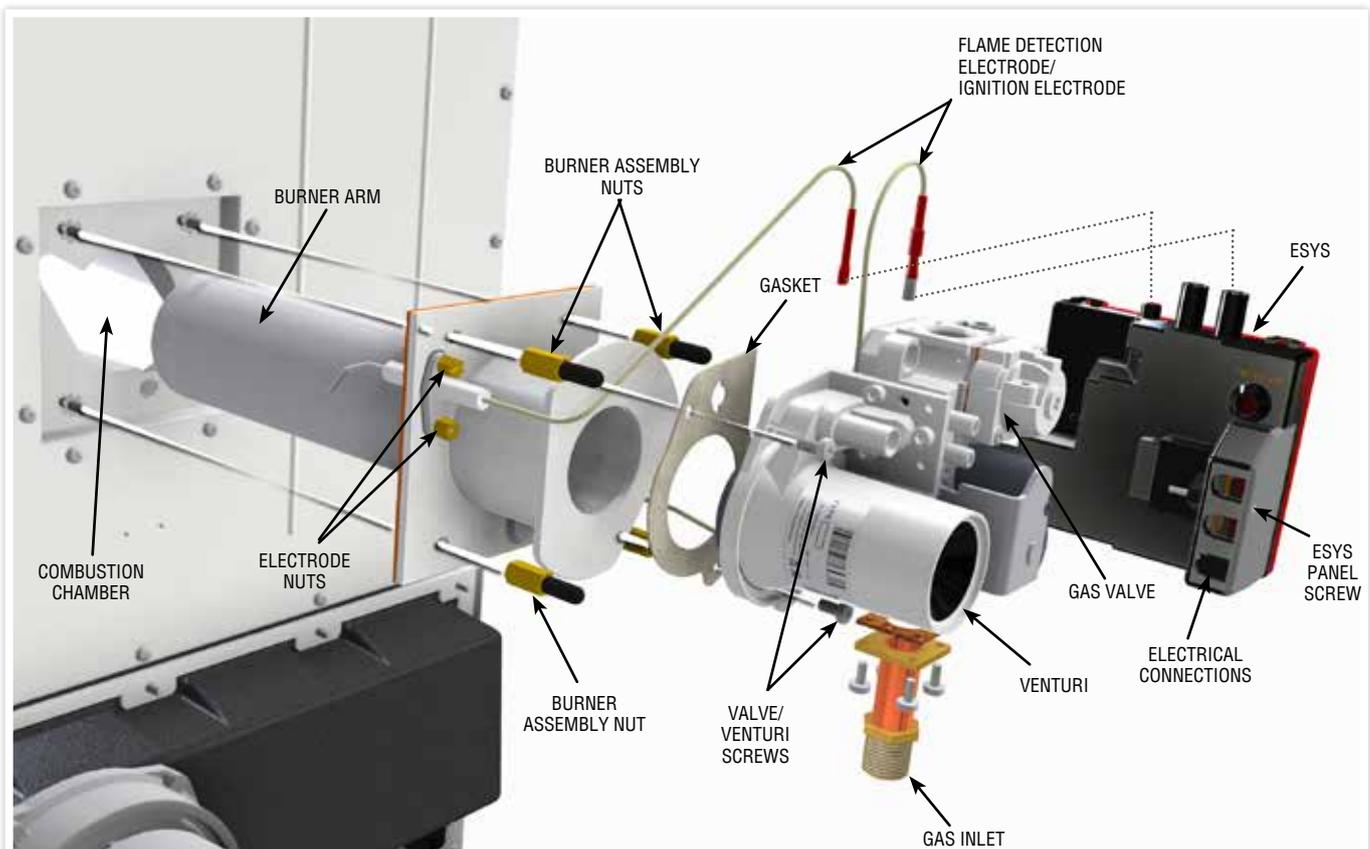

FIGURE 28. MAIN BURNER ASSEMBLY
- 17.9.2 Unplug the connections from the top of the control and remove the ignition spark detection wires. See Figure 28.
- 17.11.3 Remove the ESYS (red ignition box) & gas valve venturi assembly. Refer to 17.10 & 17.9 and Figure 28.
- 17.12.2 Unplug the lead from the ESYS (red ignition box) and earth wire from the back of the electrode. See Figure 28.
- 17.13.2 Unplug the lead from the ignition control. See Figure 28.